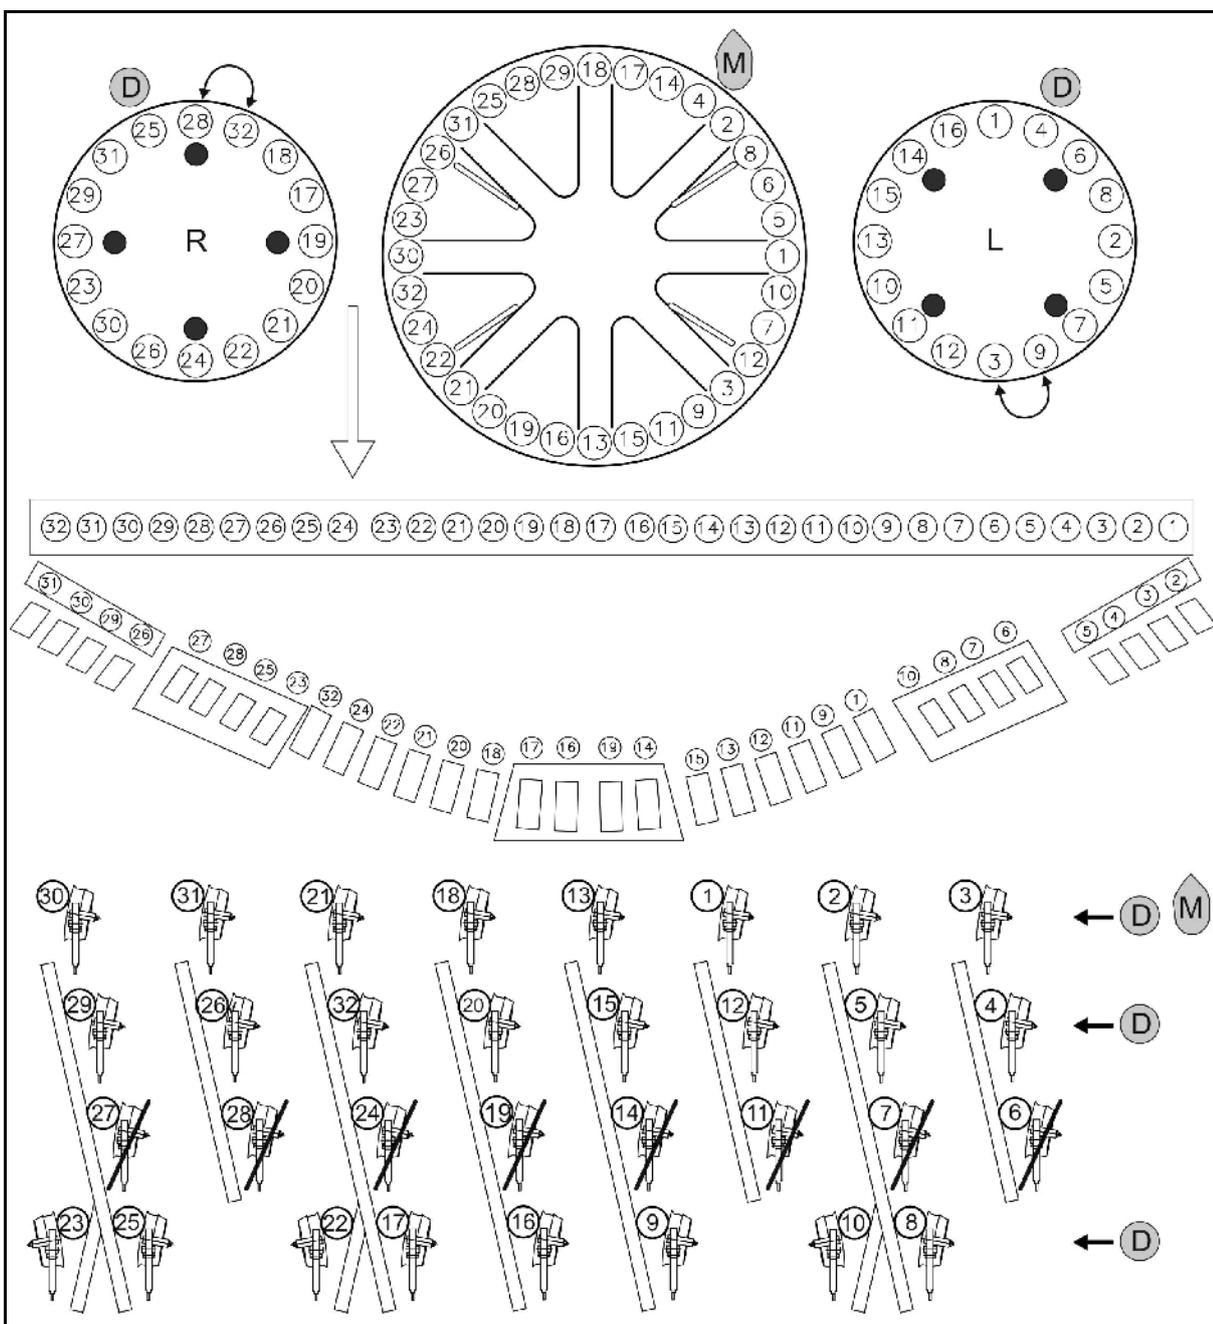

Fig. 52
- Maize M: Install the locking plates according to Fig. 52.
- Fertiliser D: Install the sealing plugs according to Fig. 52.